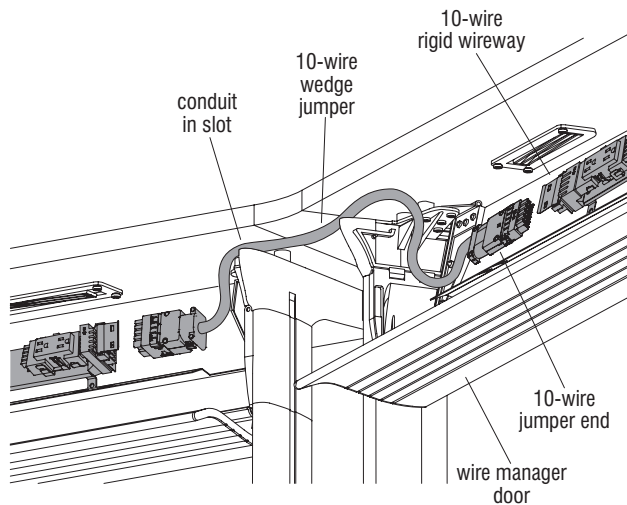

Figure 6
2. Snap the 10-wire wedge jumper ends into each table's factory installed 10-wire rigid wireway. Be sure the steel clip engages each jumper for a secure fit. Position the steel conduit of the jumper into the slot at the back, top of each table's leg as illustrated (Figure 6).